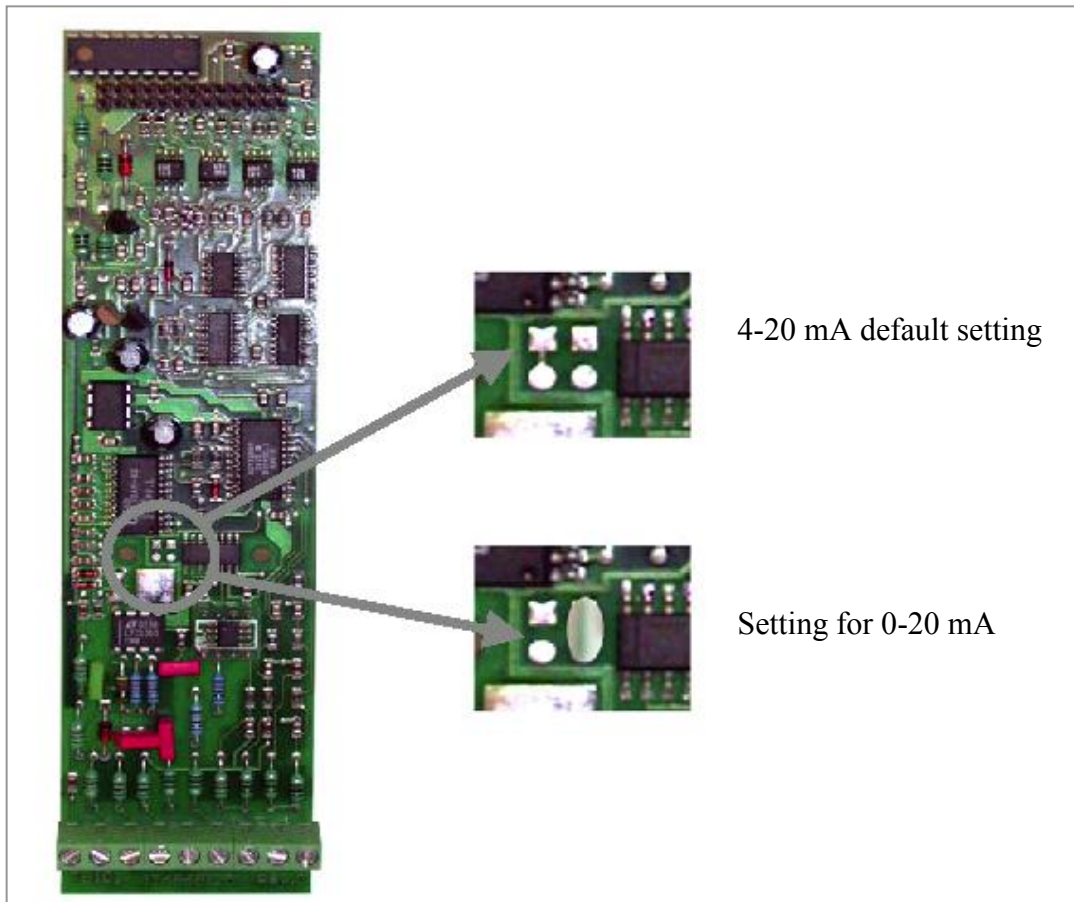

Fig. 11 - Jumper position for 4–20 to 0–20 mA output signal modification
**WARNING!** Set 0–20 mA or 4–20 mA accordingly. To modify output signal change Jumper JP1-JP2 as shown in Par. 4.4.2.1 – Fig. 11
- Identify Jumper JP1 and JP2 on board (see figure 11);